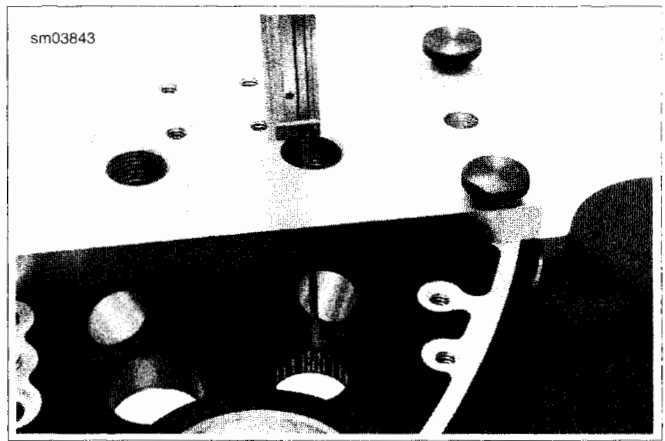

Figure 3-137. Measure from Top of Support Plate to Edge of Needle Bearing
- c. See Figure 3-137. Inserting dial caliper through forcing screw bore, measure distance from top of support plate to edge of needle bearing.